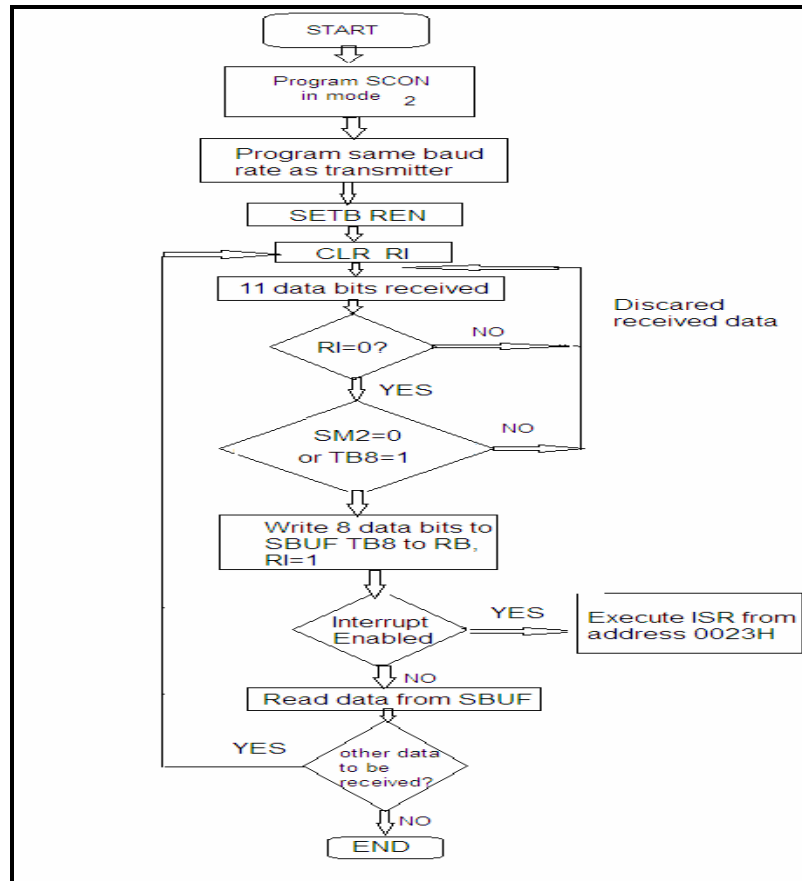

Fig. 2-8-12 Control flow of serial port mode 2 reception
(2) Receive: See Figure 2-8-12